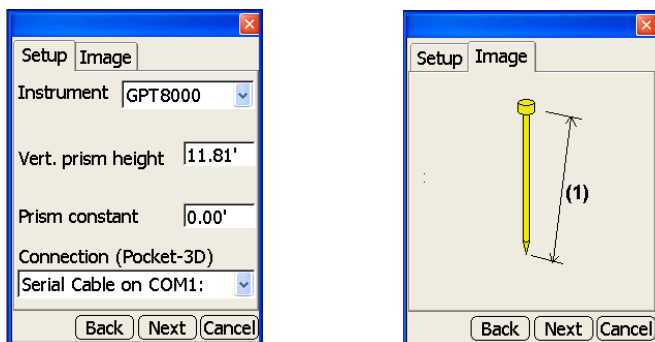

Figure 2-59. Sensor Information Dialog Box
4. Enter the sensor information using the same units of measure entered in the previous step, then press **Next** to continue (Figure 2-59 on page 2-42). These settings have a corresponding *Image* tab to illustrate the setup.